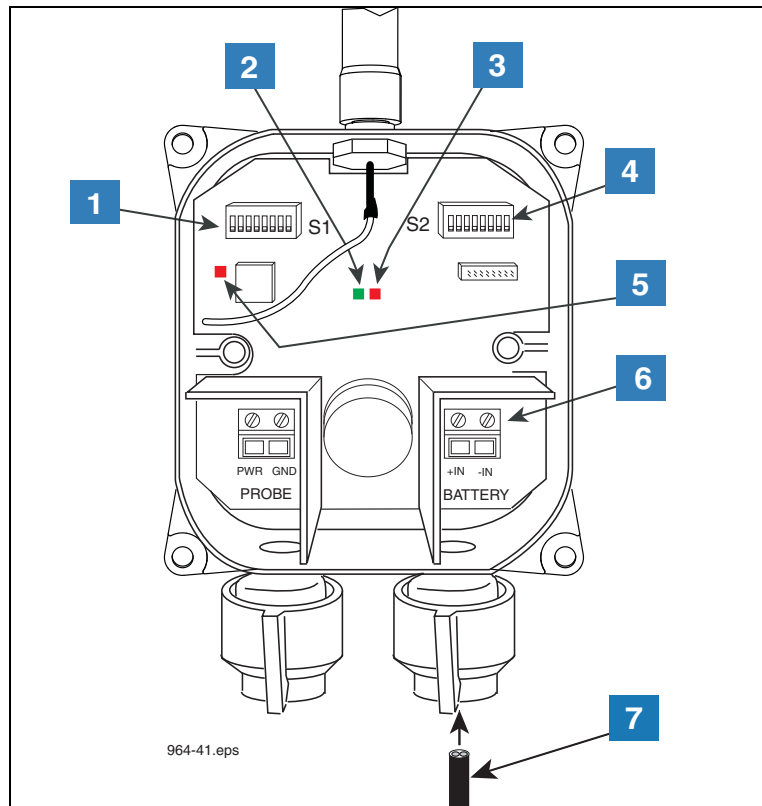

Figure 5. Wiring The Battery Cable To The Transmitter
- e. Connect the battery pack/dc power cable to the BATTERY terminal block (white to +IN and black to -IN) as shown in Figure 5.
**LEGEND FOR NUMBERED BOXES IN Figure 5**
- a. Connect the first Transmitter's battery cable to a battery pack; noting the Red LED should be flashing momentarily then followed by the Green LED (refer to item 2 and 3 in Figure 5). Since there is no Sensor connected, the two LEDs should be flashing. This is an indication a Sensor communication error and is acceptable at this step.